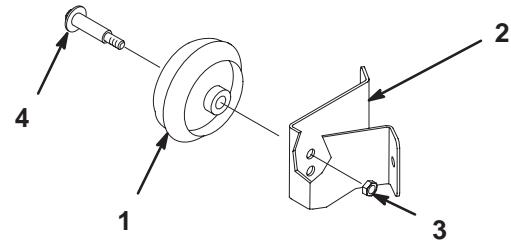

Figure 7
1. To change the height of the mower front wheels, remove the wheel mounting bolt and change the hole into which the wheel is mounted (Fig. 7).
2. Use the top hole for the lowest cutting height and the bottom hole for higher cutting heights (Fig. 7).